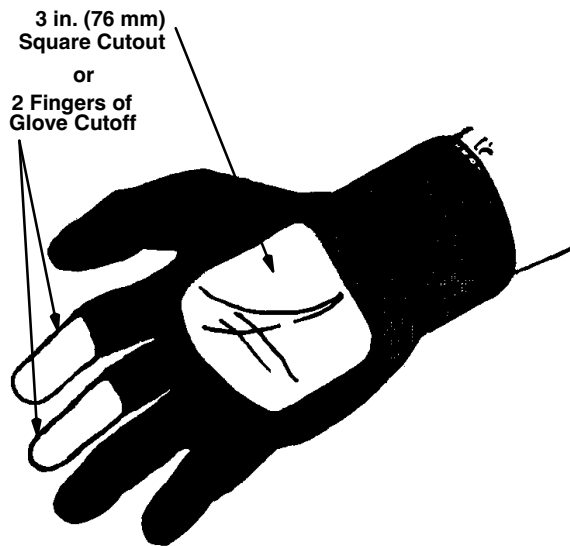

Fig 3
5. Operator must not wear gloves which insulate the hand from the spray gun. If worn, gloves must be conductive or modified as shown in Fig 3.